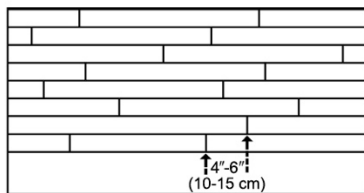

Figure 3
- ***Tramex Concrete Moisture Encounter Meter*** (Figure 3): Moisture readings should not exceed 4.5 on the upper scale. (Figure 3 shows an unacceptable reading of over 4.5) Concrete Moisture Meters give qualitative reading results-not quantitative ones. These results are a quick way to determine if further testing is required.